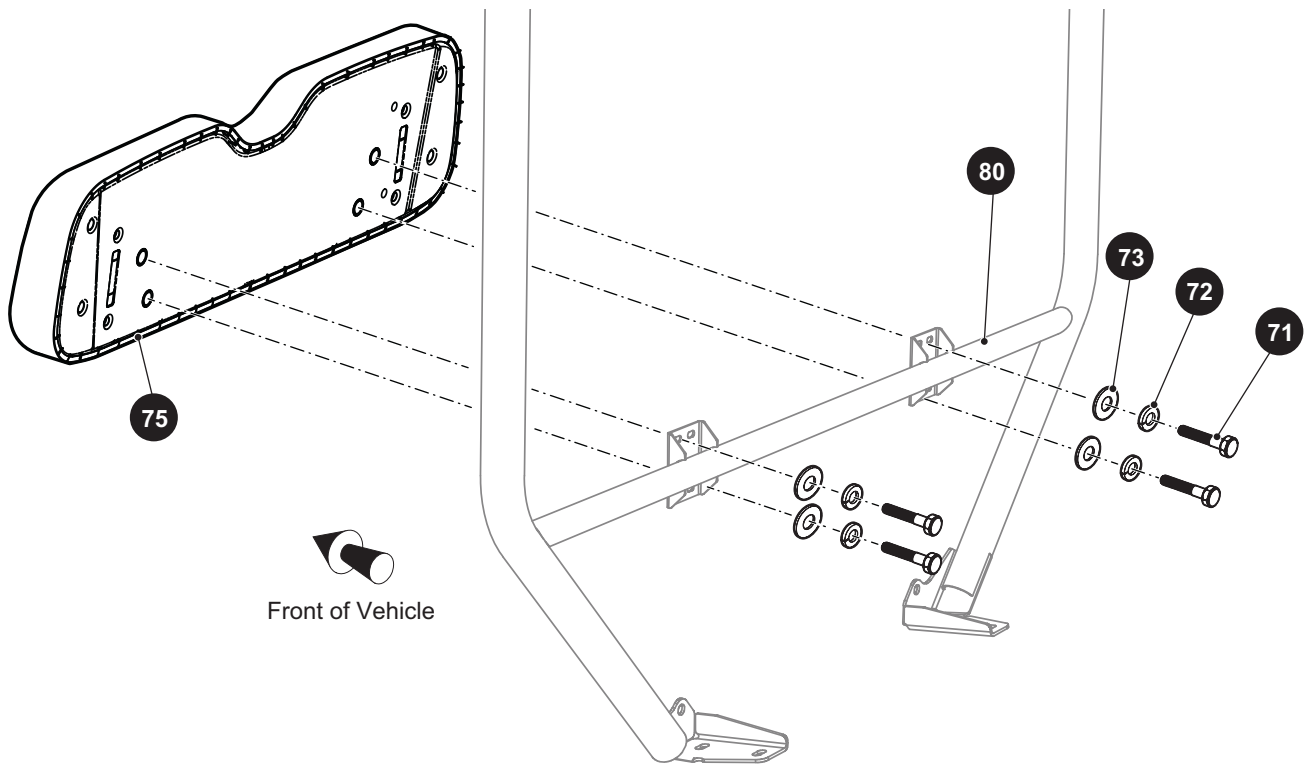

Figure 13 Seat Back Support and Support Bracket
Remove the bolts (71), lock washers (72), and flat washers (73) securing the seat back (75) to the support (80) (Ref. Figure 13).